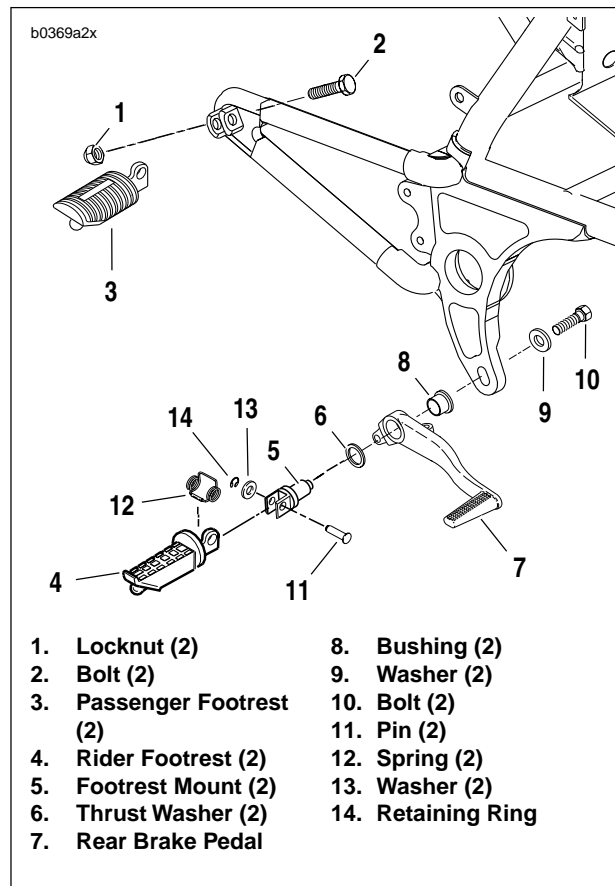

Figure 2-98. Footrests, Right Side
1. See Figure 2-98. Remove locknut (1), bolt (2) and passenger footrests (3) from frame.
- a. Remove retaining ring (14) and washer (13) from pin (11).
- b. Hold hand over spring (12) and remove pin (11), spring (12) and footpeg (4) from mount (5).
- c. See Figure 2-98. Remove bolt (10) and washer (9) to detach footrest mount (5) from frame.
- d. Slide bushing (8), pedal and thrust washer (6) off footrest mount.
1. See Figure 2-98. If removed, install passenger footrests.